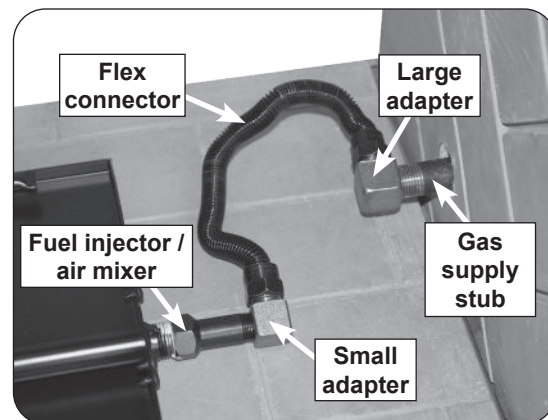

Fig. 11-1 Connect gas supply
2. Locate the gas-supply stub inside the fireplace and remove the cap, if attached (reference Fig. 11-1).
3. Remove the small adapter connected to the flex connector (included). Attach the adapter to the fuel injector / air mixer found on the side of the burner pan using a pipe compound resistant to all gasses. Tighten securely. Then attach the flex connector to the adapter. Tighten securely (See Fig. 11-1).
5. **Be sure gas to the fireplace is off.** Remove the large adapter connected to the other end of the flex connector. Attach the adapter to the gas-supply stub using a pipe compound resistant to all gasses. Tighten securely. Then attach the flex connector to the adapter. Tighten securely. See Fig. 11-1. Ensure the pan rests level on the fireplace floor after connection. Adjust the pan if necessary.